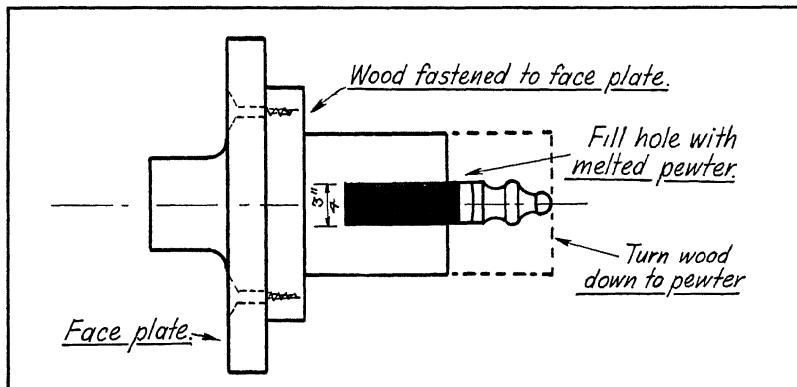

Fig. 50. Method for Turning Knobs
11. The knob for this project is made by casting pewter into a hole bored into a block of wood (Fig. 50). After the knob has been turned to the dimensions given in Figure 48, use a 60-40 solder to attach it to the cover.
11. The knob for this project is made by casting pewter into a hole bored into a block of wood. The dimensions and further directions for the knob are given in Figure 50. Use a 60-40 solder to attach the knob to the cover.